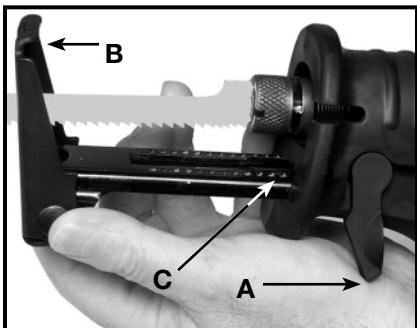
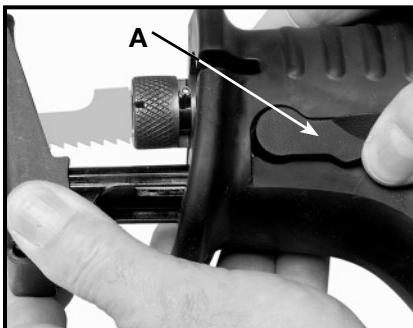

Fig. 12B
Fig. 12C
2. The **Models 746 and 748** are supplied with a keyless Quik-Change™ pivoting guide shoe. To adjust, rotate lever (A) Fig. 12B. releasing the pivoting guide shoe (B). Adjust to desired position and close lever (A) Fig. 12C. The keyless Quik-Change™ pivoting guide shoe is designed with a raised lip (C) at the end that prevents the guide shoe from locking in position if it is extended out too far. After adjusting, make sure the locking lever is completely closed in the locked position (A) Fig. 12C.